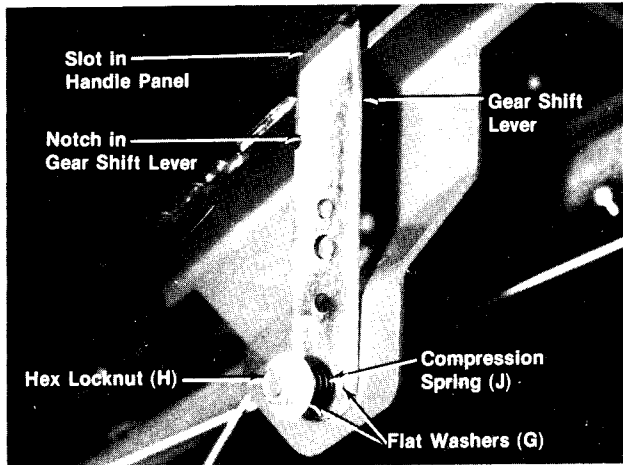

FIGURE 8.
- F. Assemble notched edge of gear shift lever so notch faces forward. Place gear shift lever through slot in handle panel and bottom hole over weld stud. Secure with flat washer (G), compression spring (J), another flat washer (G) and hex locknut (H). See figure 8.
- G. Tighten hex locknut until nut is flush with stud. See figure 8.